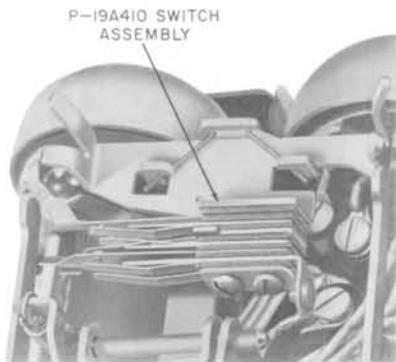

Fig. 2—Typical Exclusion Switch
- (1) Exclusion key used to control extension stations or external signaling circuits in key telephone systems (Fig. 2).